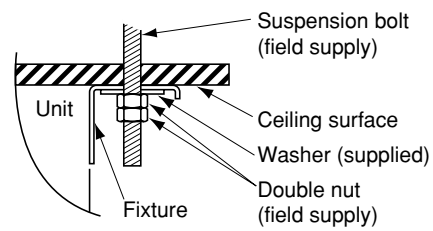

Fig. 3-43
- (6) Carry out the preparation for suspending the indoor unit. The suspension method varies depending on whether there is a suspended ceiling or not. (Figs. 3-43 and 3-44)
- (7) Suspend the indoor unit as follows: